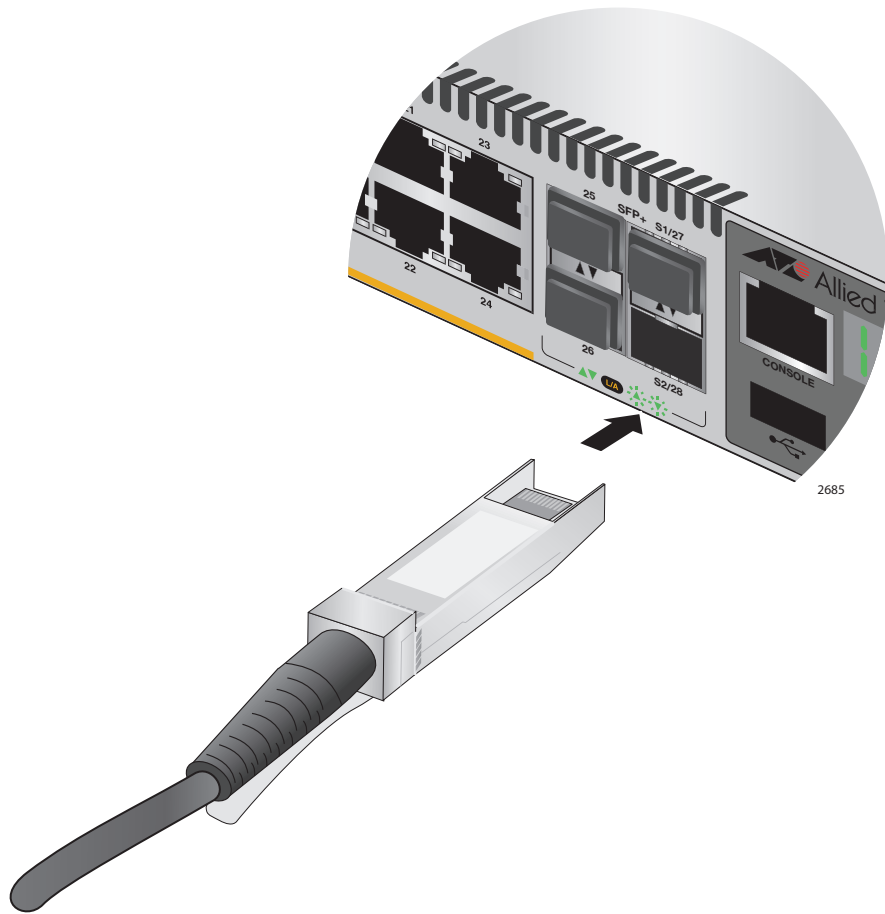

Figure 59. Installing the AT-StackXS/1.0 Transceiver in Slot S2
7. Position the transceiver with the release tab on the bottom and slide it into the slot until it clicks into place, as shown in Figure 59 on page 96.